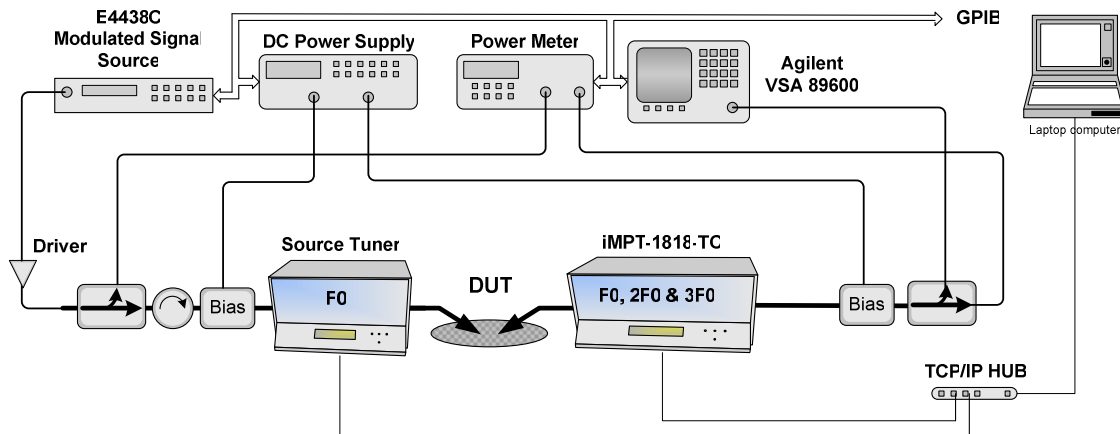

Figure 3: WiMAX Setup Using a MPT Multi-Purpose Multi-Harmonic Tuner (integrated f_0 , $2f_0$ & $3f_0$)
- Multi-Purpose Multi-Harmonic Tuner (iMPT 1818-TC) for Fo, 2Fo and 3Fo tuning (Fig.3)
Solution 3: Using a Multi-Purpose, Multi-Harmonic Tuner iMPT-1818-TC (Figure 3)
Finally, WiMAX measurements can be performed using a Multi-Purpose Multi-Harmonic Tuner (iMPT 1818-TC) which can tune f_0 , $2f_0$ and $3f_0$ independently [4]. The iMPT 1818-TC allows for three-frequency tuning while replacing two separate tuners, as shown in Figure 3. The MPT makes use of three wideband, integrated and independently calibrated tuning sections, which can be automatically positioned for full f_0 , $2f_0$ and $3f_0$ control in both magnitude and phase. There is no need for resonator change or other hardware manipulations to cover the whole frequency range. Because all tuning is accomplished within one structure, without external components or adapters, the MPT offers the lowest loss solution and maximum tuning range at f_0 . Because of the further reduction in size this solution is the best available to date for on-wafer load pull.